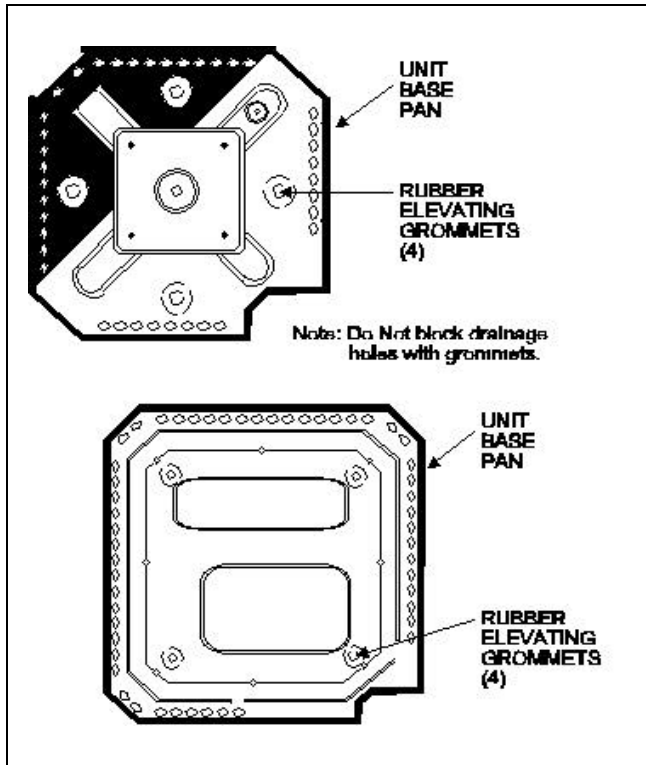

FIGURE 2 : POSITIONING GROMMETS
5. Sit unit on the (4) rubber elevating grommets provided with the unit. These should be positioned as shown in Figure 2 to reduce noise and allow for proper drainage.